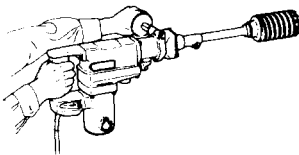

Fig. 15
- (1) Insert the plug into a power supply receptacle.
- (2) A spring is built in the center pin. By straightly and gently pressing it to the wall or floor surface, the entire surface of the core bit tip attains contact to start the hole drilling job. (Fig. 15)
- (3) When the hole depth reaches approximately  $3/16$ ", the hole position can be determined. Then remove the center pin and guide plate from the core bit and continue the hole drilling job.